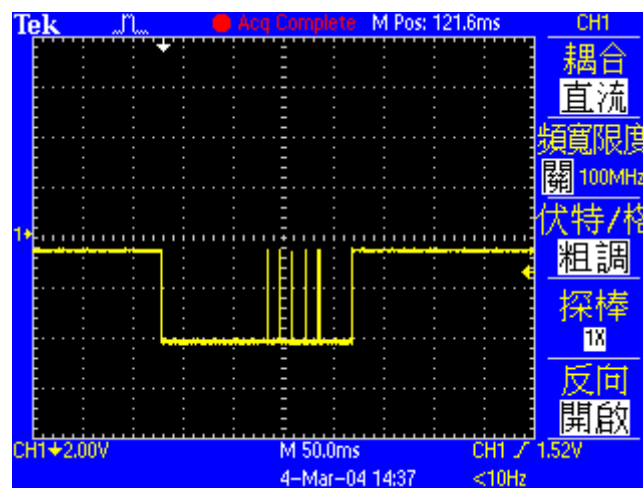
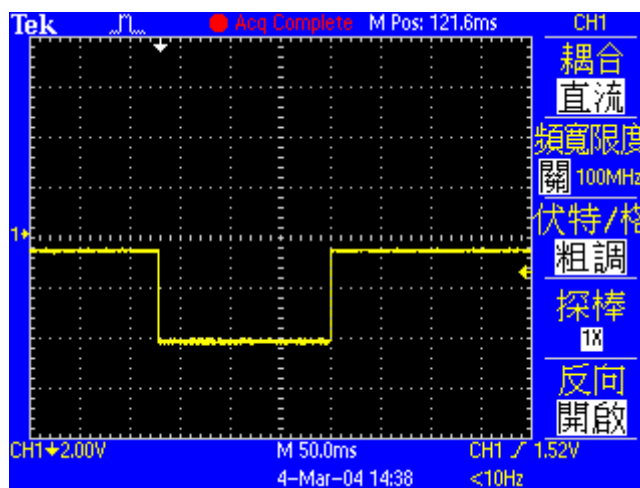

Figure5.6.2 In-position signal at "Debounce time" being 0 ms
Figure5.6.3 In-position signal at “Debounce time” being 3 ms
- (1) After fixing "Target radius" and setting "Debounce time" to 0 ms, let the motor move a distance and observe the "In-Position" signal on the oscilloscope, as shown in figure 5.6.2. When "In-Position" is achieved, the signal is a high level; while when it is not achieved, the signal is a low level. It can be observed from figure 5.6.2, when the motor moves to near the target position, there are six protruding pulses (the latter two are closer). Observing the high-level duration of each protruding pulse, the first one is about 1.5 ms, the second one is about 1.4 ms, the third one is about 1.4 ms, the fourth one is about 1.3 ms, and the fifth one and the sixth one are about 1 ms.
- (2) Observing in figure 5.6.2, the widest protruding pulse is 1.5 ms. So, “Debounce time” can be set to larger than this value. After considering the safety factor, set “Debounce time” to 3 ms. Let the motor move a distance, the “In-Position” signal is shown in figure 5.6.3. The instability of “In-Position” signal is improved.
Click  to appear the window of application center, as shown in figure 5.6.2. The first tab is the homing configuration page of “Homing”.
(1) Homing mode for incremental encoder
This method is only applicable to homing modes (1) and (2) described above. When “Home Offset” is set to a nonzero value, the home position found in the original condition is offset by a distance. This new position is taken as the coordinate origin, and the motor moves to this origin position. For example, if the left and right conditions are not “None”, the drive will take the position, which is the home position found in the original condition offset by a distance, as the new home position, as shown in figure 5.6.3. If “Home Offset” is positive, the coordinated origin is at the right side of home position found in the original condition; while if it is negative, the coordinated origin is at the left side of home position found in the original condition.
Faster speed	Search at the faster homing speed. Set it in the “Faster Speed” field given in figure 5.6.2.